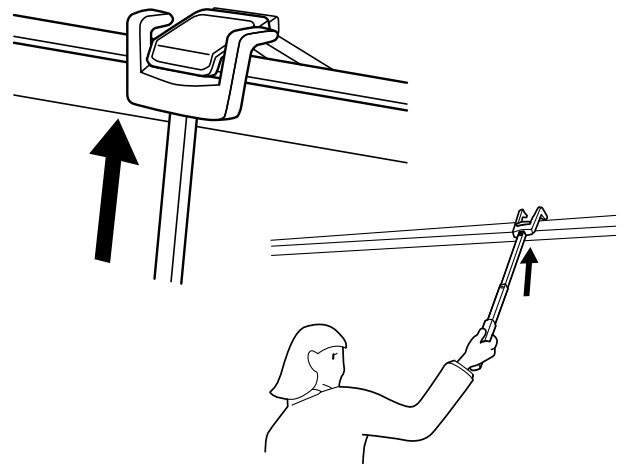

Figure 4
4. **On 90" and 100" models only** Place the end of the extending handle under the slat handle as shown below and raise screen to desired height. (Figure 4).